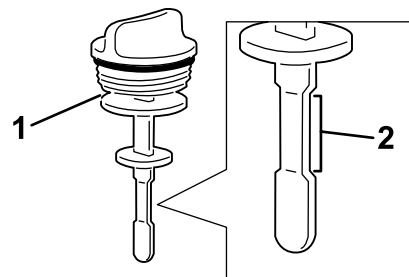

Figure 91
4. Remove the dipstick from the filler neck and check the fluid level (Figure 91).